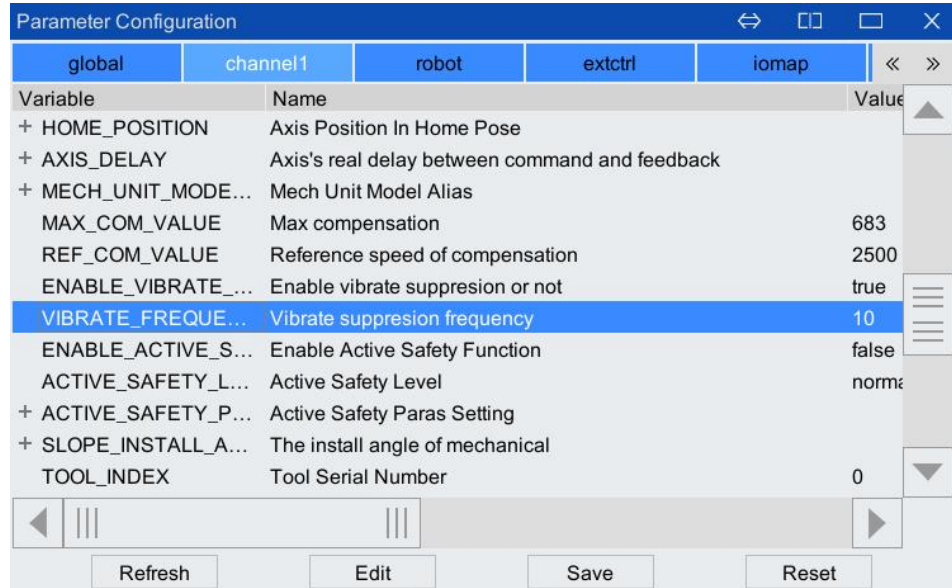

Figure 10-9 Parameter setting page
Step5. In the "Channel 1" configuration interface, select "Vibrate suppression frequency (VIBRATE\_FREQUENCY)", and click the <Edit> button. As shown in Figure 10-9.